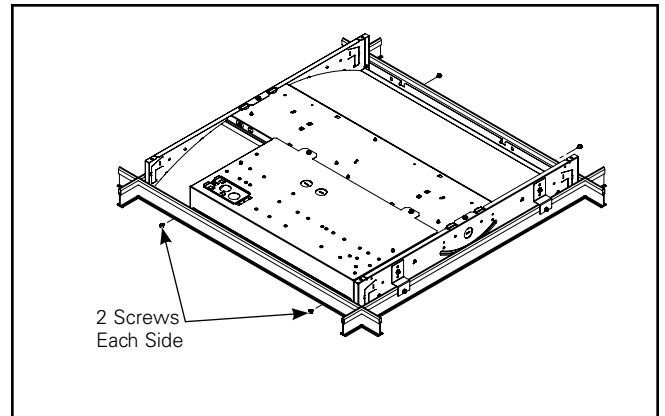
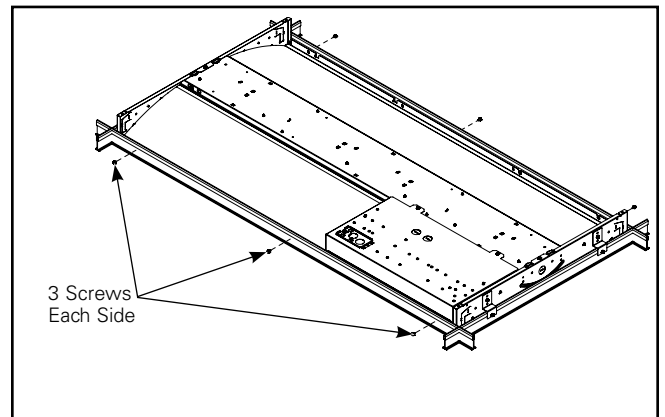

Figure 9.
Figure 10.
- Secure the other two short wall sides with self-tapping screws to the T-Grid as shown (Figure 9). For a 14FCZ2/24FCZ2, secure with 3 screws on each side (Figures 10 & 11). For a 22FCZ2, secure with 2 screws on each side (Figure 9). Be sure to drill the screws through both the wall of the T-Grid and the wall of the fixture. The fixture wall will be shorter than the T-grid wall.
- Secure the other two short wall sides with self-tapping screws to the Drywall kit as shown (Figure 9). For a 14FCZ2/24FCZ2, secure with 3 screws on each side (Figures 10 & 11). For a 22FCZ2, secure with 2 screws on each side (Figure 9). Be sure to drill the screws through both the wall of the Drywall kit and the wall of the fixture. The fixture wall will be shorter than the Drywall kit wall.